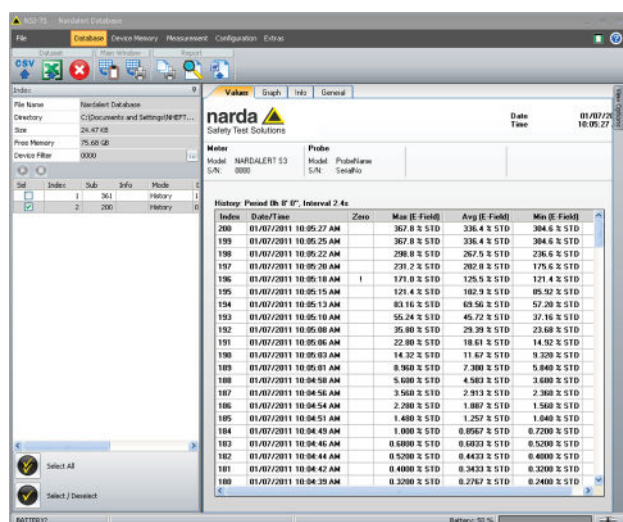
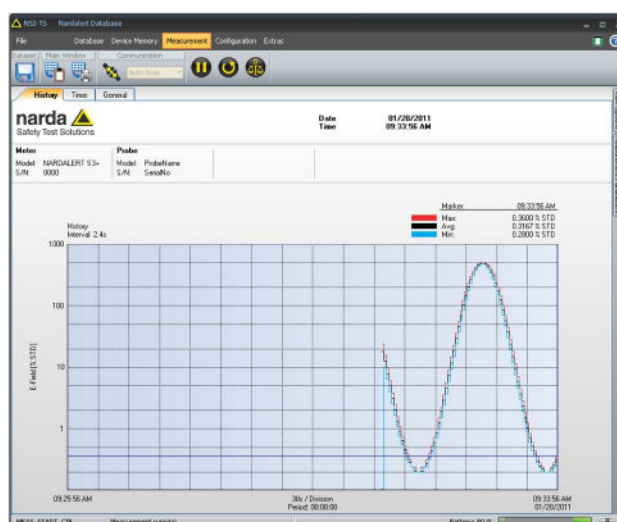

Fig. 5. Numerical read-out of exposure results
Fig. 6. Real-time measurement display of exposure over time
The Nardalert S3 software (NS3-TS) is supplied standard with every unit. Readings can be downloaded and displayed numerically (Fig. 5) or graphically (Fig. 6) by simply installing the software and plugging in the supplied USB cable.
- › **Database** – Database management of files stored on computer (Fig. 5)
- › **Measurement** – Displays real-time measurements on computer (Fig. 6)